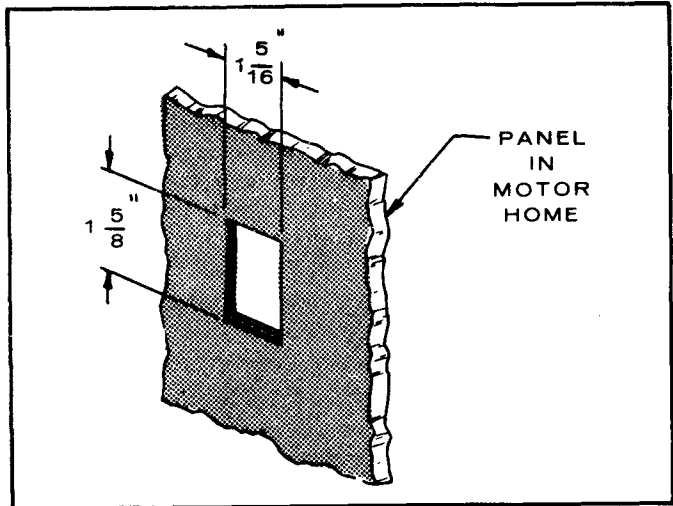

FIGURE 5. MOTOR HOME CUTOUT
1. Cut hole in motor home panel (Figure 5) to accommodate switch.